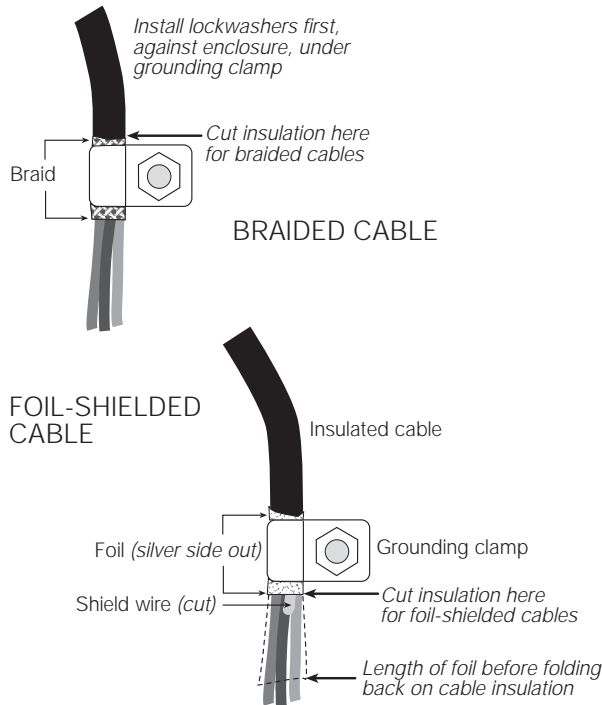

Figure 4. Grounding Clamp Attachment for Foil-Shielded and Braided Cabling
- For cables with foil shielding, strip insulation and foil from the cable half an inch (15 mm) past the grounding clamp (see Figure 4). Fold the foil shield back on the cable where the cable passes through the clamp. Ensure silver (conductive) side of foil is turned outward for contact with the grounding clamp.